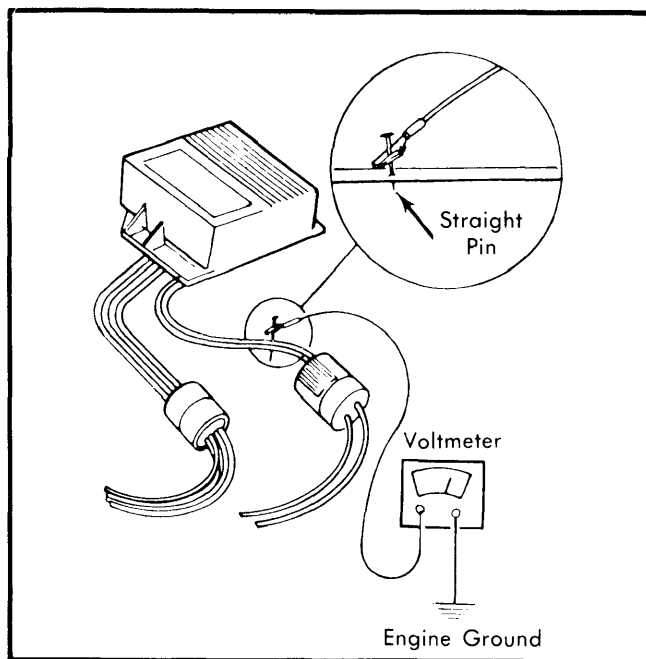

Fig. 7 Checking Control Module Run and Start Circuits with Voltmeter
1) Insert a straight pin through Red wire of ignition module 2-wire harness, between module and connector. See Fig. 7. Attach positive lead of voltmeter to straight pin and negative lead to a good engine ground. Do not allow straight pin to contact ground.
a straight pin in White wire of ignition module 2-wire harness, between module and connector. See Fig. 7. Attach positive lead of voltmeter to pin, with negative lead still grounded. Again, do not let pin touch ground. Turn ignition switch "OFF" and reattach starter relay wires.